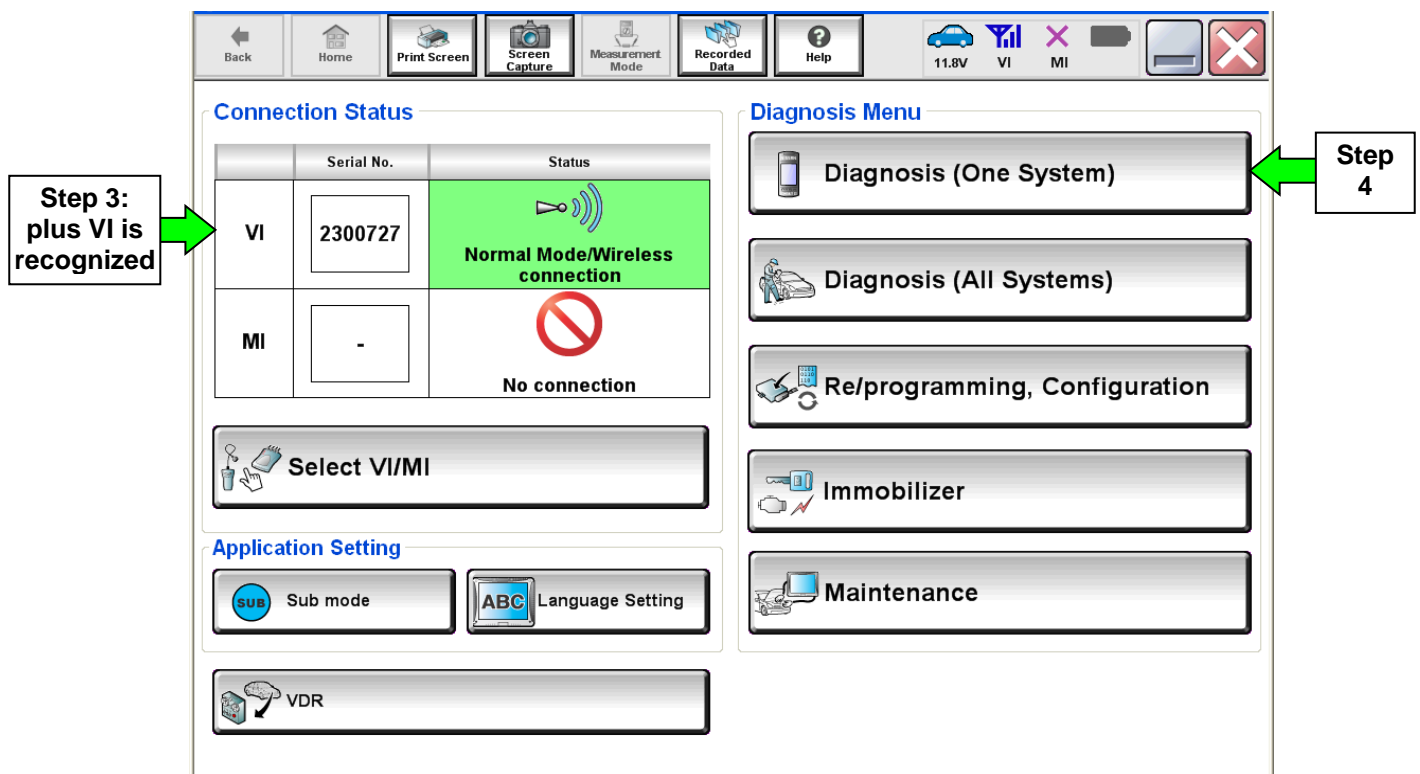

Figure 1E
1. Return to the C-III plus Home screen (see Figure 1E).